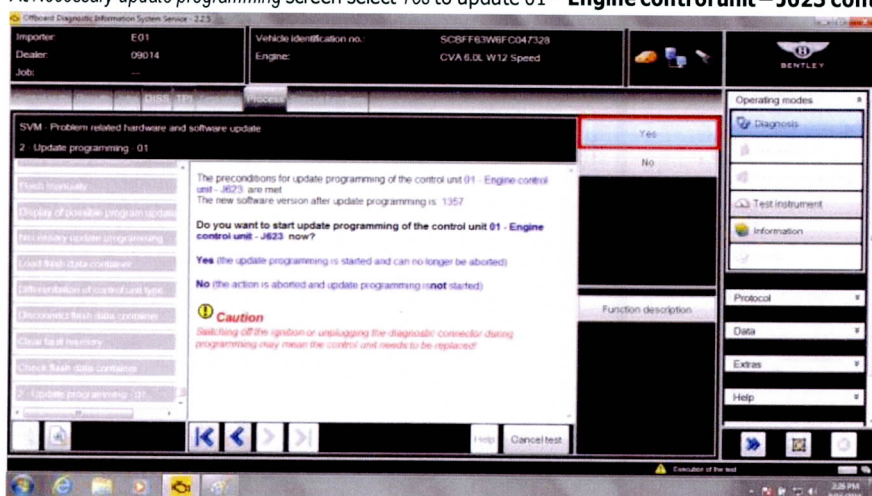

Figure 6
15. Select **Yes** at *2 Update programming 01* to update 01 – Engine control module (see Figure 6)
19. Select Yes at 2 - Update programming - 11 to update - Engine control module 2 (see Figure 6)
23. Select Yes at 2 - Update programming - 02 to update - Automatic gearbox control unit (see Figure 6)